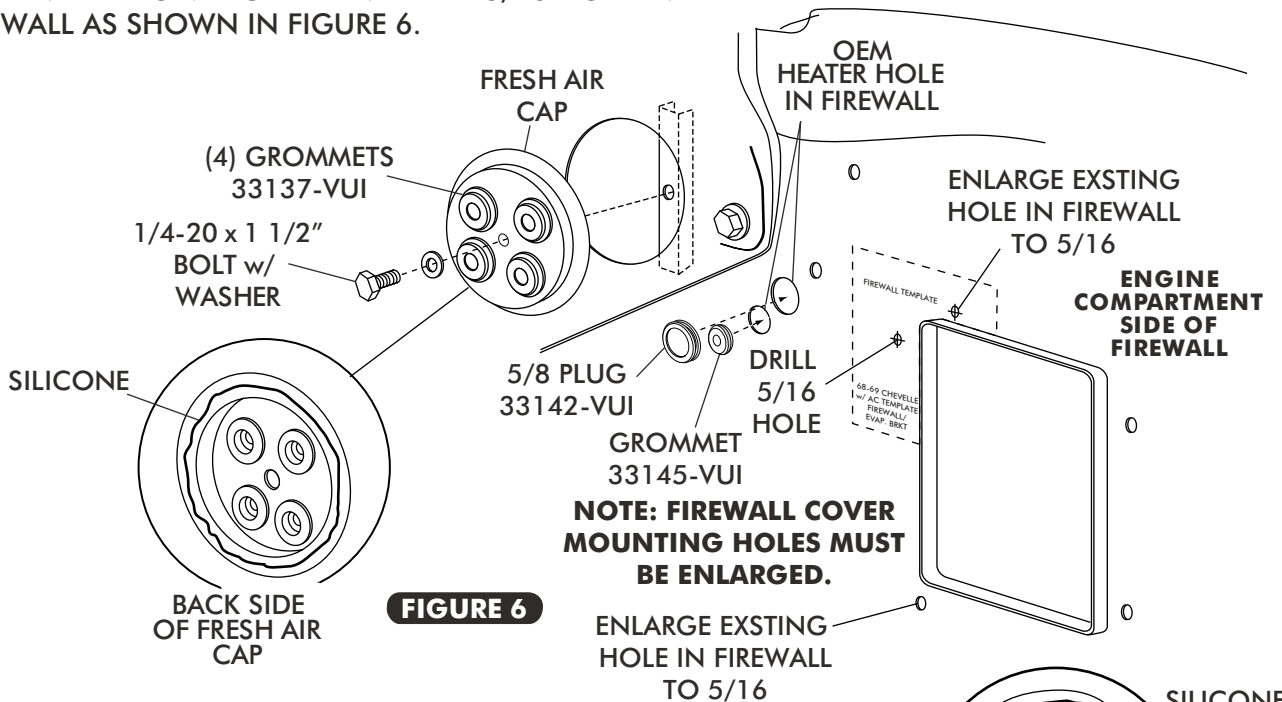

FIGURE 6
- ❑ INSTALL (4) GROMMETS IN FRESH AIR CAP. SEE FIGURE 6 BELOW
- ❑ APPLY A 1/4" BEAD OF SILICONE AROUND THE BACK SIDE OF THE FRESH AIR CAP AS SHOWN IN FIGURE 6 BELOW.
- ❑ ATTACH FRESH AIR CAP TO FIREWALL USING A 1/4-20 x 1 1/2" BOLT AND WASHER, SEE FIGURE 6 BELOW. (NOTE: FRESH AIR CAP INSTALLS ON ENGINE SIDE OF FIREWALL.)
- ❑ INSTALL 5/8 PLUG AND GROMMET IN FIREWALL SEE FIGURE 6.
- ❑ USE TEMPLATE ON PAGE 24 AND DRILL 5/16 HOLE IN FIREWALL AS SHOWN IN FIGURE 6.